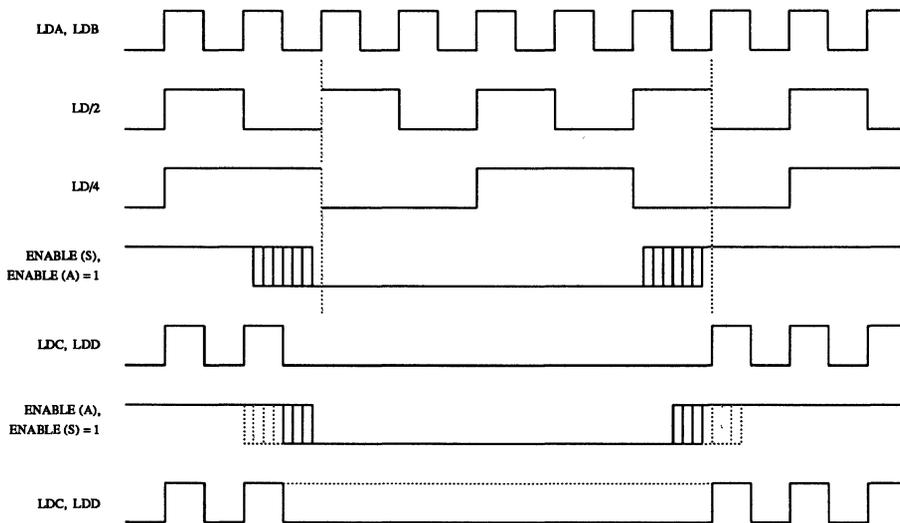

Figure 2. Load Output Timing.
While both ENABLE (S) and ENABLE (A) are a logical one, LDC and LDD will be free-running and in phase with LDA and LDB. This architecture allows the shift registers of the video DRAMs to be optionally non-clocked during the retrace intervals. Figure 1 illustrates the ENABLE implementation within the Bt438, while Figure 2 shows the load output timing.